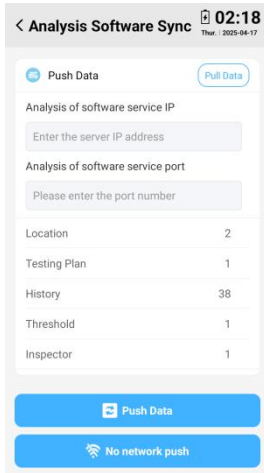

Figure 4.9-2 APP analysis software interface
- (1) Click on the “Analysis Software Synchronization” icon to enter the analysis software synchronization interface, as shown in Figure 4.9-2. Fill in the software service IP and service port number displayed in the data synchronization interface of the computer analysis software into the corresponding box of the instrument analysis software synchronization interface;
- (2) On the data synchronization interface of the computer analysis software, click “Start Reception”;
- (3) Click the “Push Data” button on the instrument side;
- (4) After synchronization is completed, the synchronized data can be viewed on the computer analysis software.